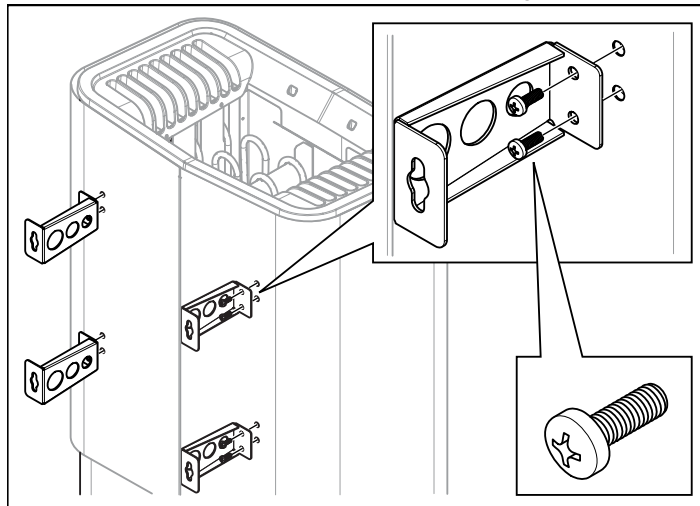

Figure 12: Attaching the brackets to the heater
6. Unscrew the first two screws on the back of the heater and screw one of the four brackets into place. Repeat the procedure until all of the brackets are fitted see Fig. 12.